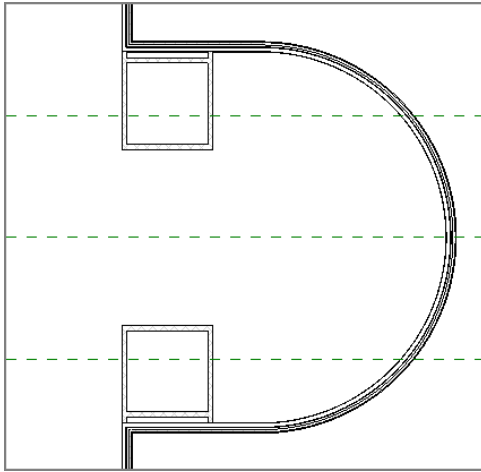

FIGURE 2.30: The elevator shaft is now mirrored.
3. Pick the horizontal reference plane in the center of the building. Your walls are now mirrored, as shown in Figure 2.30.